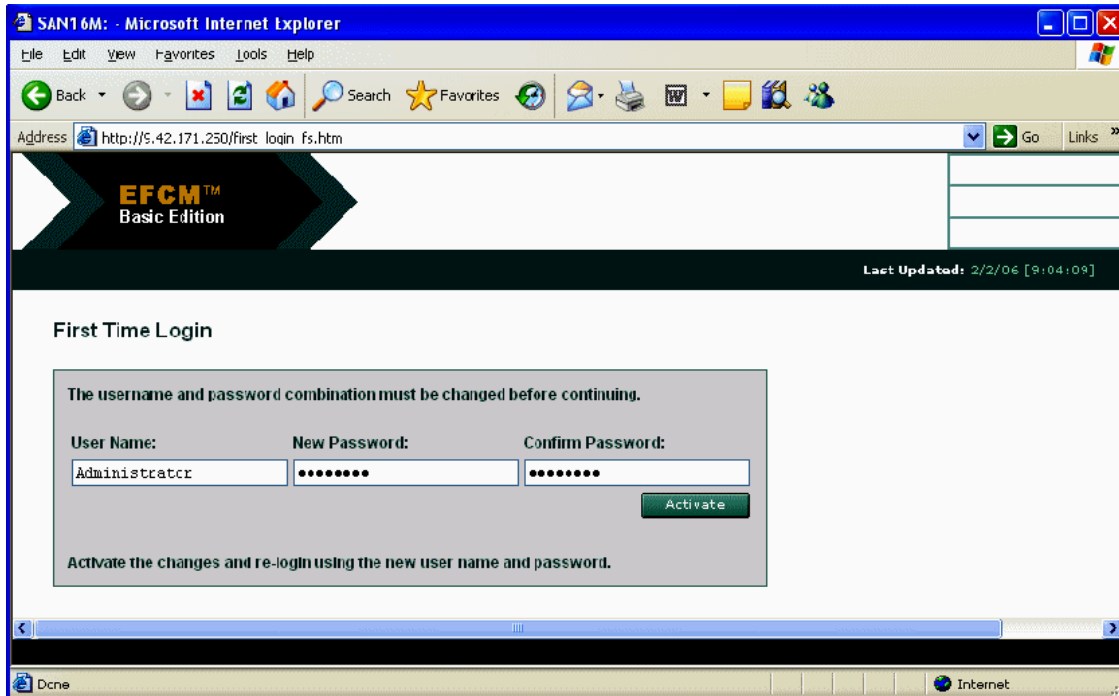

Figure 6-9 Edge Switch Sphereon 4400 login window
1. Launch your switch's IP address from your browser. Log in using your User ID and password (see Figure 6-9).